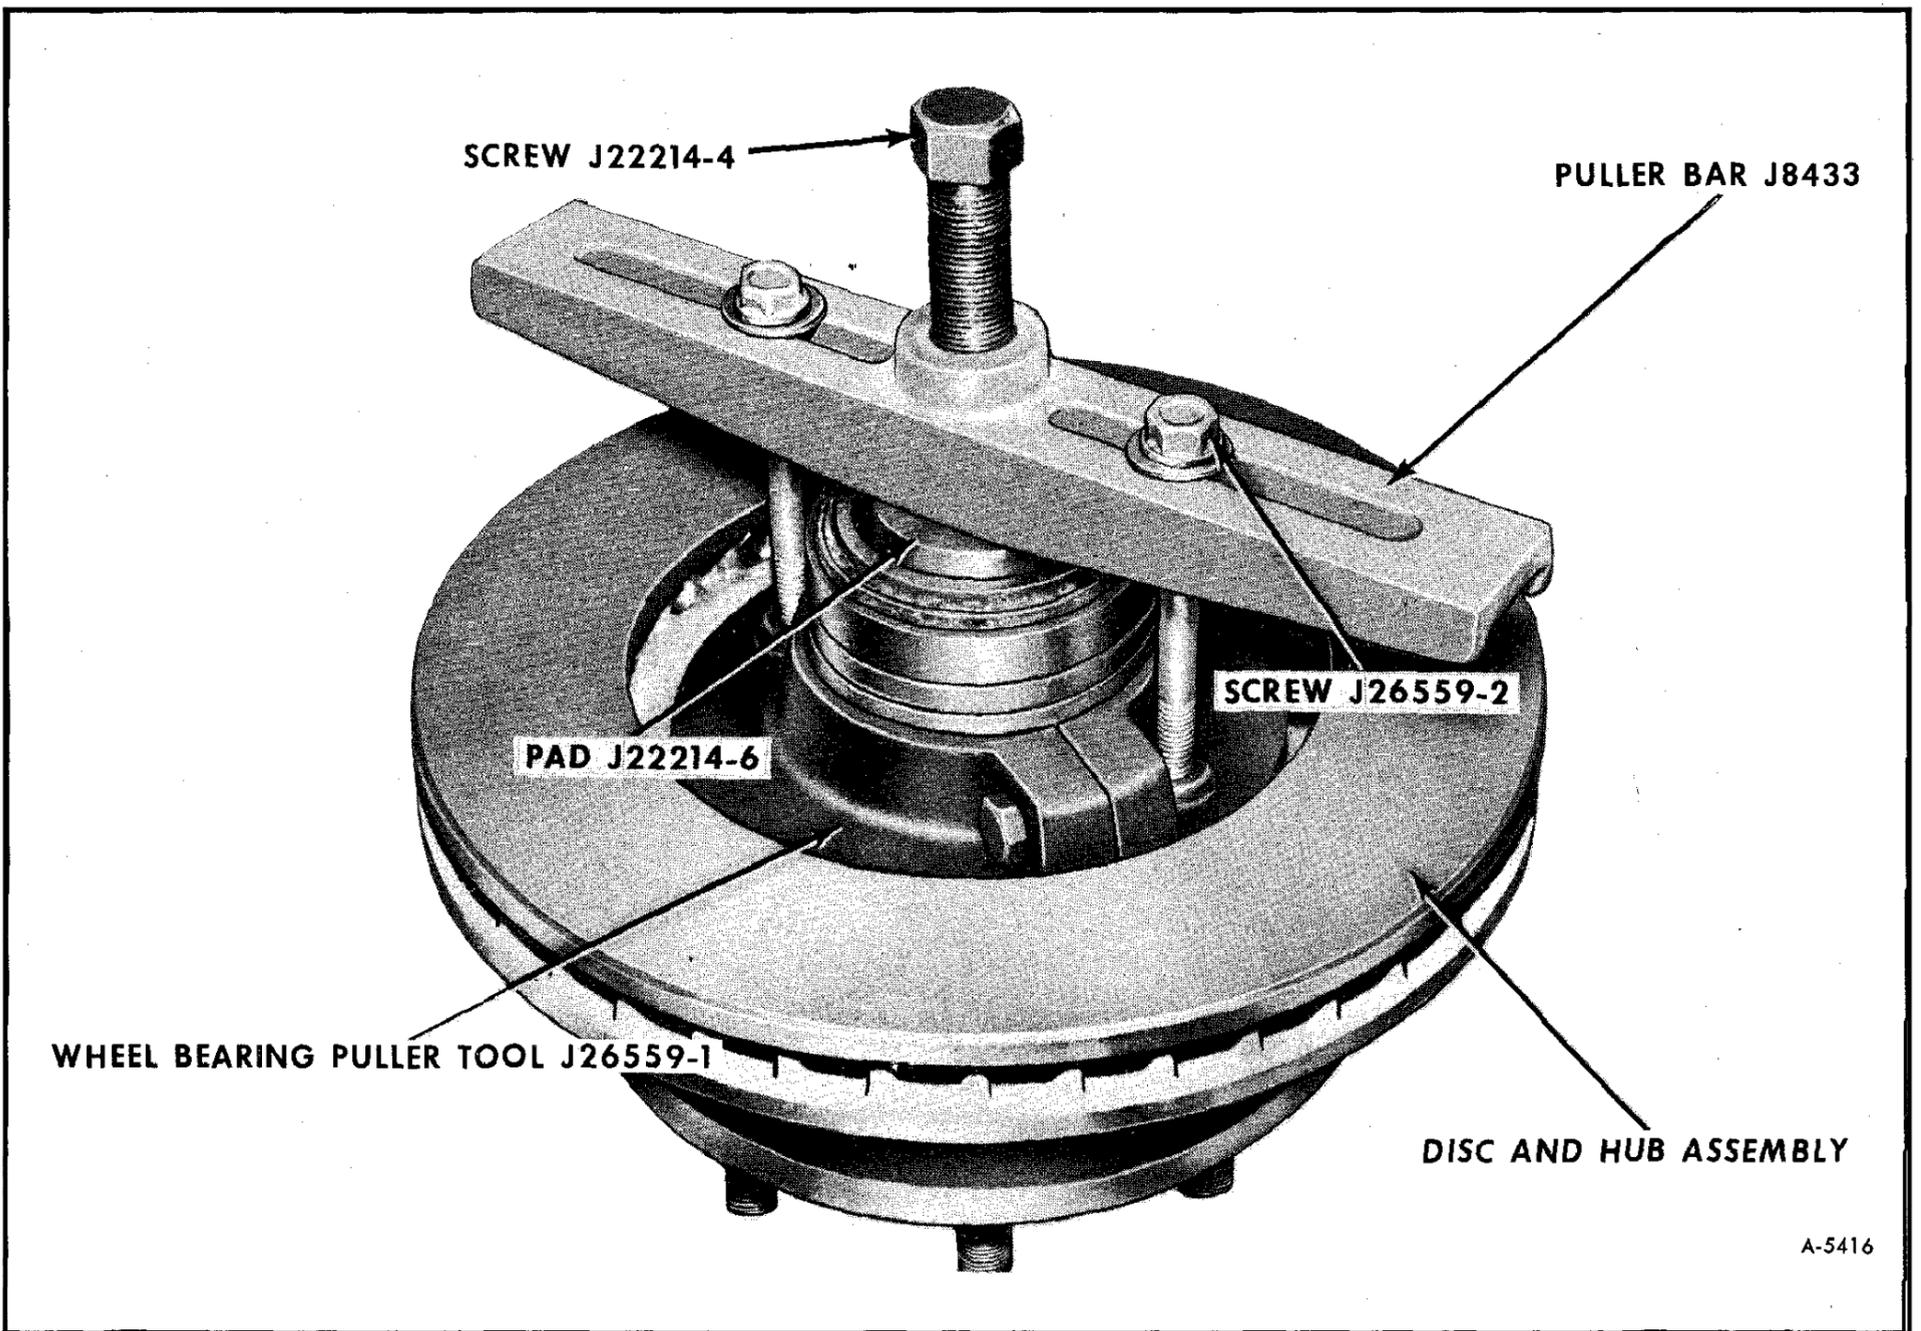

Figure 7—Wheel Bearing Puller Tool J-26559
There is a new Bearing Puller Ring, Tool J-26559, used to facilitate the removal of front wheel bearings from the front hub/ rotor assembly (figure 7). This tool is to be used in conjunction with Puller Bar J-8433.
3. Position tool assembly as shown in figure 7.